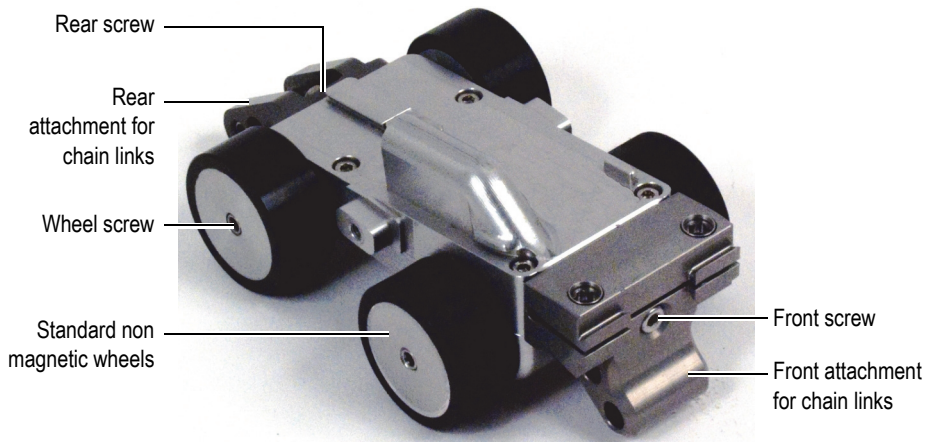

Figure 2-25 The main module equipped with the chain attachment
4. Use a hexagonal key or the supplied universal tool to unscrew the front screw securing the mouse front attachment for chain links (see Figure 2-25 on page 56).